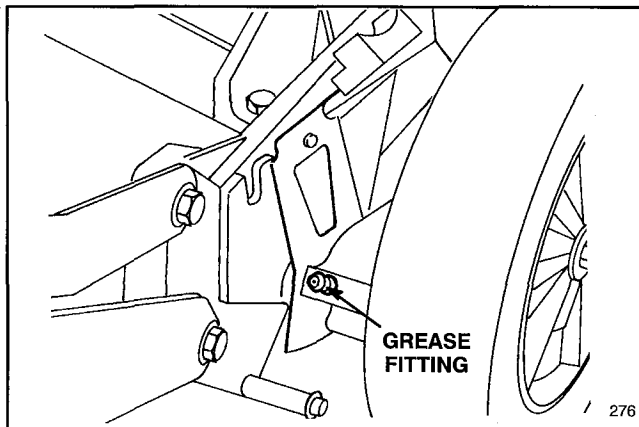

Figure 27
2. Move rear wheel height-of-cut levers to “C” setting. Wipe grease fittings with clean rag (Fig. 27). Install grease gun onto fitting and gently apply two or three pumps of #2 Multi-Purpose Lithium Base Grease.